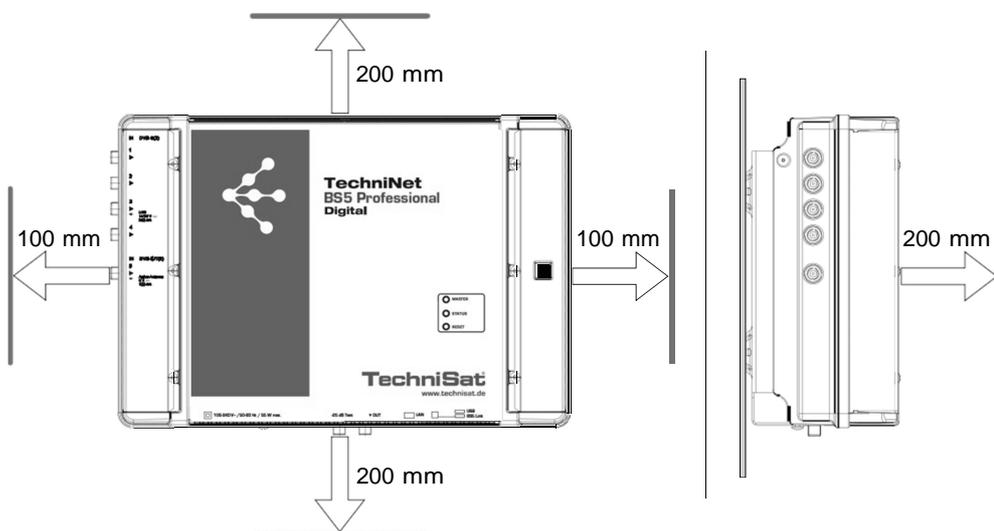

Abb. 2 Allow the necessary clearance for air circulation
- To allow free circulation of air around the device, the clearances shown in Fig. 2 must be ensured.